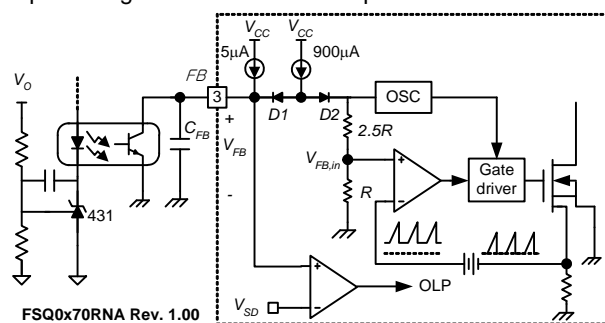

Figure 14. Pulse Width Modulation Circuit
2. Feedback Control: The 700V FPS series employs current-mode control, as shown in Figure 14. An opto-coupler (such as the H11A817A) and shunt regulator (such as the KA431) are typically used to implement the feedback network. Comparing the feedback voltage with the voltage across the R_{sense} resistor of SenseFET, plus an offset voltage, makes it possible to control the switching duty cycle. When the shunt regulator reference pin voltage exceeds the internal reference voltage of 2.5V, the opto-coupler LED current increases, the feedback voltage V_{FB} is pulled down and thereby reduces the duty cycle. This typically happens when the input voltage increases or the output load decreases.
4.3 Over-Voltage Protection (OVP): In the event of a malfunction in the secondary-side feedback circuit, or an open feedback loop caused by a soldering defect, the current through the opto-coupler transistor becomes almost zero (see Figure 14). V_{FB} climbs up in a similar manner to the overload situation, forcing the preset maximum current to be supplied to the SMPS until the overload protection is activated. Because excess energy is provided to the output, the output voltage may exceed the rated voltage before the overload protection is activated, resulting in the breakdown of the devices in the secondary side. To prevent this situation, an Over-Voltage Protection (OVP) circuit is employed. In general, V_{CC} is proportional to the output voltage and the FPS uses V_{CC} instead of directly monitoring the output voltage. If V_{CC} exceeds 19V, the OVP circuit is activated, resulting in termination of the switching operation. To avoid undesired activation of OVP during normal operation, V_{CC} should be designed to be below 19V.